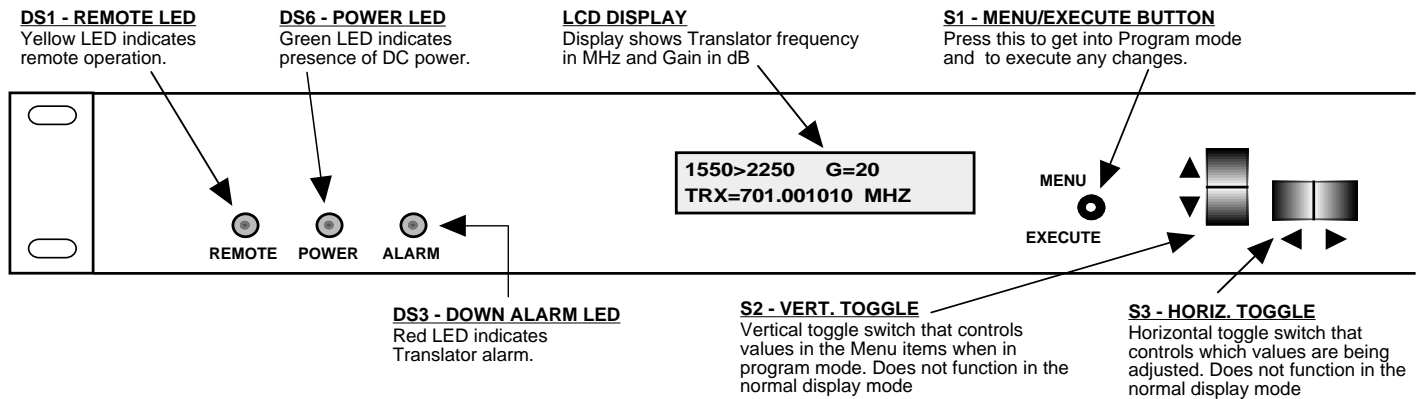

FIGURE 2.3 2083-1320 Front Panel Controls and Indicators
6. Be sure DS6 (green, DC Power) is on and DS (red, Alarm) is off (Figure 2.3).
Alarm indications appear on the LEDs (See figure 2.3).